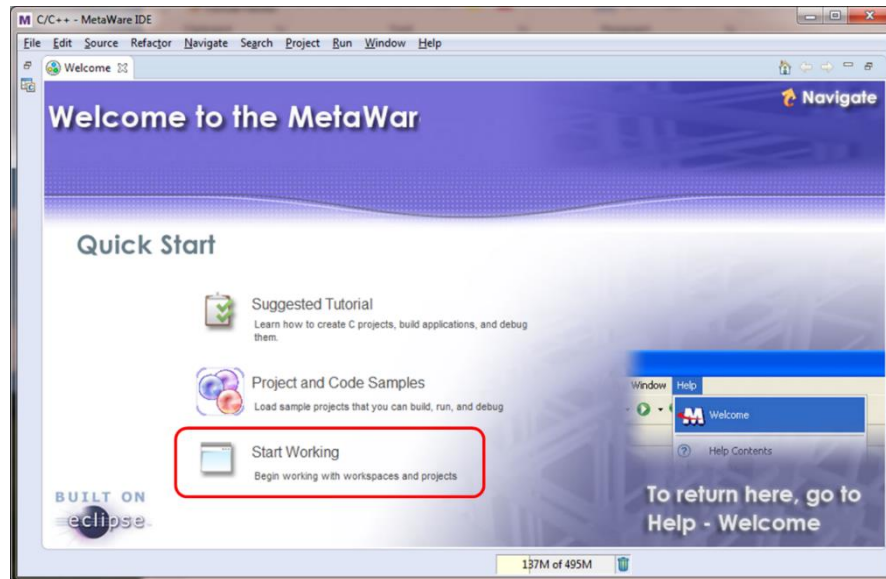

Figure 7 Metaware IDE Lite Welcome window.
4. Once Metaware IDE Lite completes the loading process, the Metaware IDE Lite Welcome window will be displayed as shown in Figure 7. Click **Start Working**.